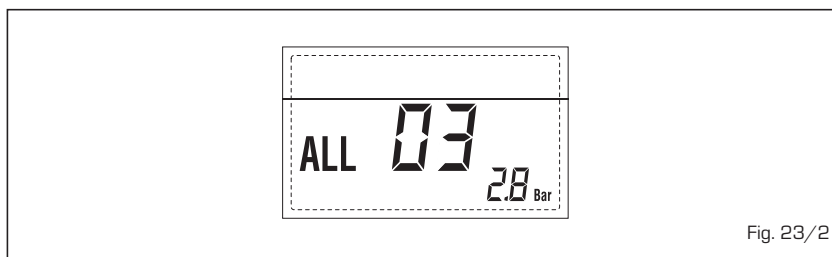

Fig. 23/2
– **ANOMALIA Sonda SANITARIO “ALL 04” (fig. 23/3)**